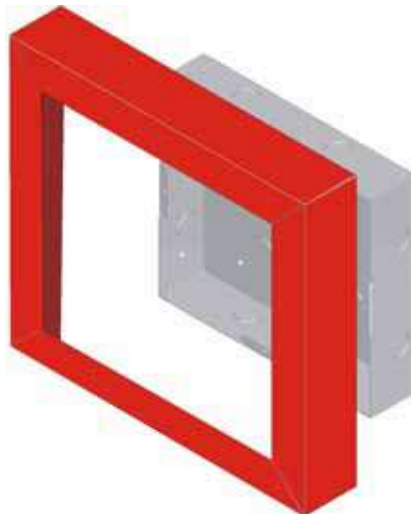

Figure 4-13 Installing Trim Ring
4. Place the trim ring over the back box as shown in Figure 4-13.